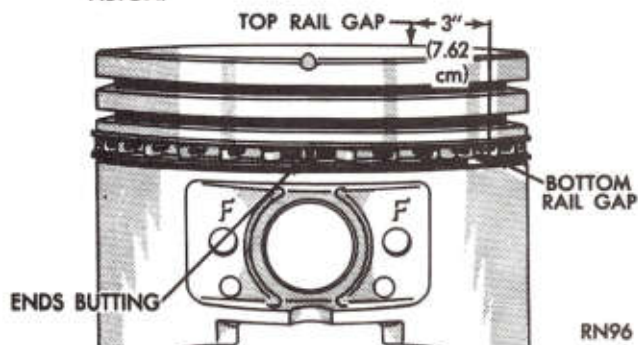

Fig. 44—Proper Oil Ring Installation
(4) On both the 318 and 360 engines, the keys on the spacer expander must be inserted into the hole in the oil ring groove over the piston pin front boss. (Fig. 44).
(5) Arrange oil ring rail gaps on inboard side of piston as shown at top of (Fig. 44).
(6) Install compression rings in middle and top grooves; use Ring Installer Tool C-3586 for 318 cubic
(1) Before installing pistons, and connecting rod assemblies into the bore, be sure that compression ring gaps are staggered so that neither is in line with oil ring rail gap.
(2) Before installing the ring compressor, make sure the oil ring expander ends are butted and the rail gaps located as shown in (Fig. 44).
(3) Immerse the piston head and rings in clean engine oil, slide the ring compressor, Tool C-385, over the piston and tighten with the special wrench (part of Tool C-385). **Be sure position of rings does not change during this operation.**
(4) Install connecting rod bolt protectors on rod bolts, the long protector should be installed on the numbered side of the connecting rod.
(5) Rotate crankshaft so that the connecting rod journal is on the center of the cylinder bore. Insert rod and piston into cylinder bore and guide rod over the crankshaft journal.
(6) Tap the piston down in cylinder bore, using a hammer handle. At the same time, guide connecting rod into position on crankshaft journal.
(7) The notch or groove on top of piston must be pointing toward front of engine and the larger chamber of the connecting rod bore must be installed toward crankshaft journal fillet.
(8) Install rod caps. Install nuts on cleaned and oiled rod bolts and tighten nuts to 45 ft. lb. (61 N·m).